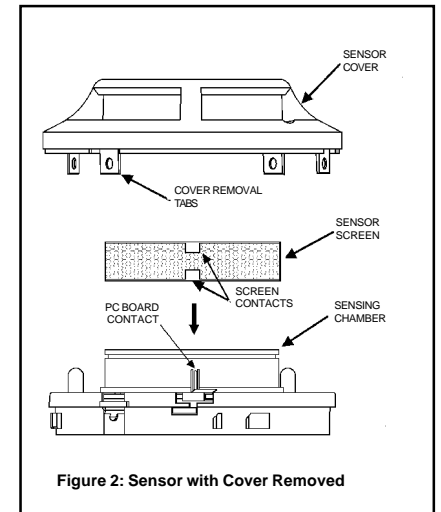

Figure 2: Sensor with Cover Removed
2. Remove the sensor cover. (Note: Regulations in some countries may prohibit this operation on ionisation type sensors). Use a small flat blade screwdriver to gently release each of the four cover removal tabs that hold the cover in place (see Figure 2).